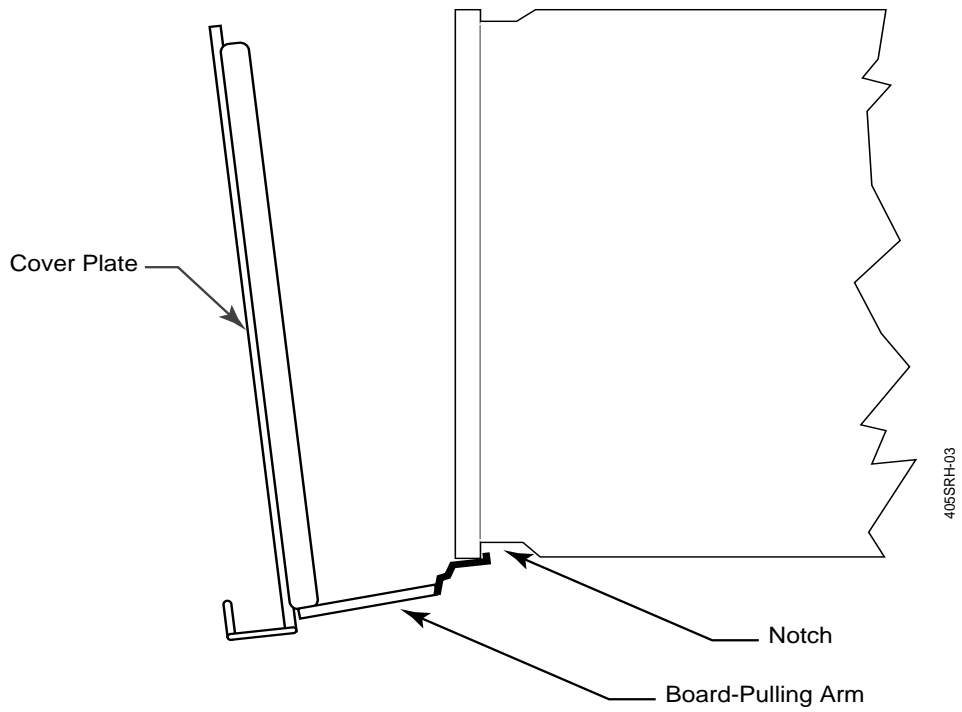

Figure 2: SCM and NIU Removal
7. Using the control panel, insert the rear flange of the control panel in the slot of the SCM (see Figure 2) and gently pull the SCM out of the chassis.
14. Using the control panel, insert the rear flange of the control panel in the slot of the NIU module (see Figure 2) and gently pull the NIU out of the chassis.